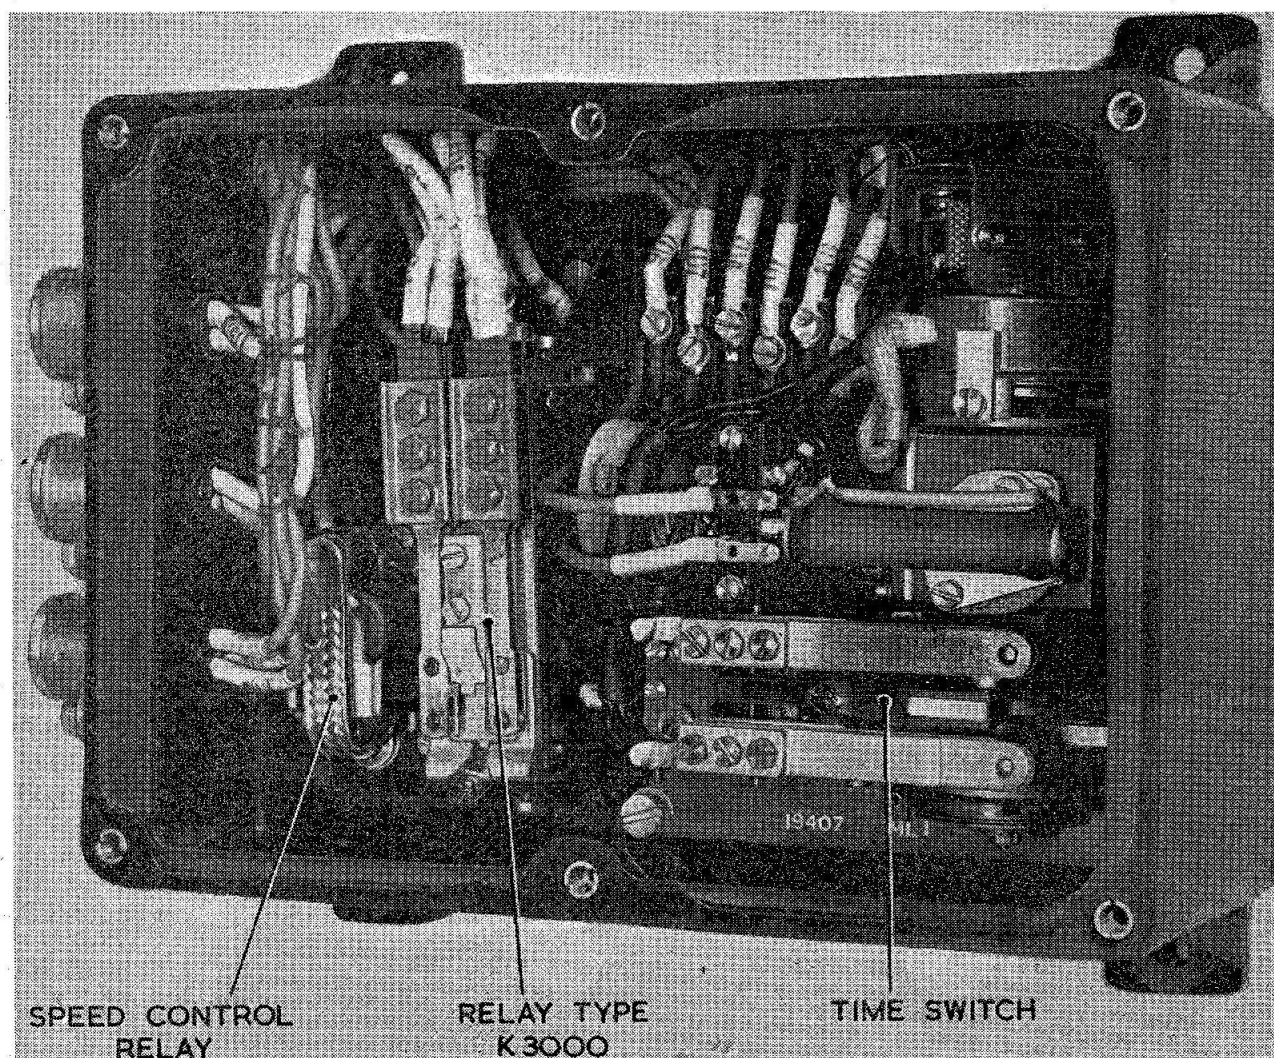

Fig. 1. View of Mk. 8 control box with cover removed
1. The control box Mk. 8 (fig. 1) is used to govern the timed sequence of operations in Plessey liquid-fuel turbo-starter systems described in A.P.1181B, Vol. 1 and 6, Part 1, Sect. 1, Chap. 3, in which para. 40 to 48 and fig. 4 cover the operation of the control box system.
### General (fig. 1)